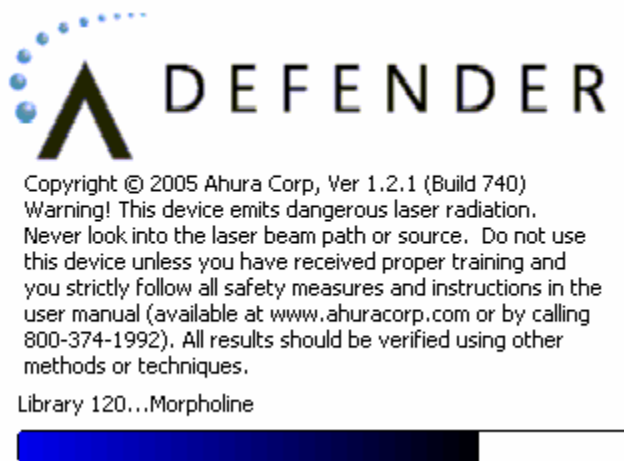

Figure 2-1: Initialization Screen
- a) Turn on the unit with the  button. If the battery is charged, the system will immediately wake up and show you the last screen you were on when the unit was last put to sleep. If the unit does not come on, then a fresh battery is needed. Insert the battery (or connect the AC adapter plug) (see Section 5.3), and the system will present an *Initialization* screen (Figure 2-1). The unit then loads the chemical library for about two minutes while the unit boots. This screen text provides general information about the product, product support and related issues.